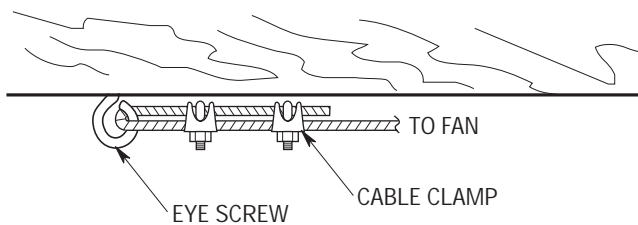

Figure 10
16. Pass the end of the safety cable through the two cable clamps (supplied) (Figure 10). Pass the end of the safety cable through the eye screw and then back through the two cable clamps.
CAUTION: It is important to note the proper installation position of the cable clamps as illustrated in Figure 10. TO obtain maximum holding power, install U-bolt section of clip on dead or short end of cable and saddle on long end of cable. Improper installation reduces the efficiency of the connection by as much as 40 percent.